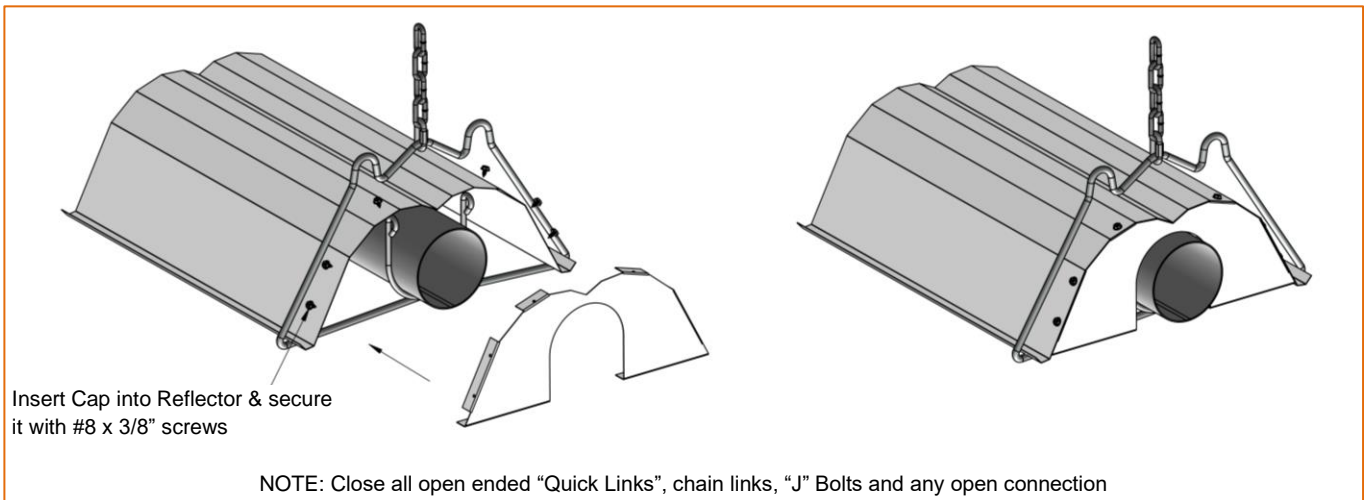

Figure 17: Reflector End Cap Installation
- Install End Cap as shown in Figure 1 and Figure 17